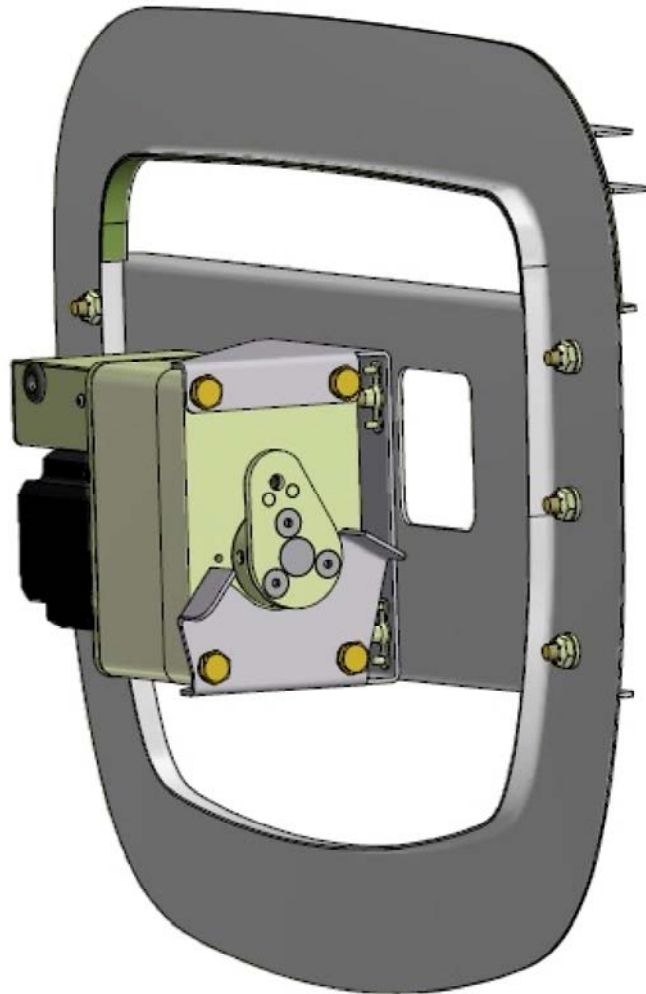

Figure 3-9
- (1) Trim the pitch wiring harness to length and terminate the pitch servo wiring harness per the Vizion wiring diagram **USING OPTION B** in the Vizion PMA Installation Guide (TruTrak Doc. 166).
- (2) Install Connector Backshell 9 Pin (P/N 2100-010).
- (3) Attach the electrical connector to the roll servo and secure it in place with the mounting screws. Torque to approximately 2-3 in-lb.
- (4) Place the servo behind the mounting bracket with the arm oriented between the servo stops as shown in Figure 3-9